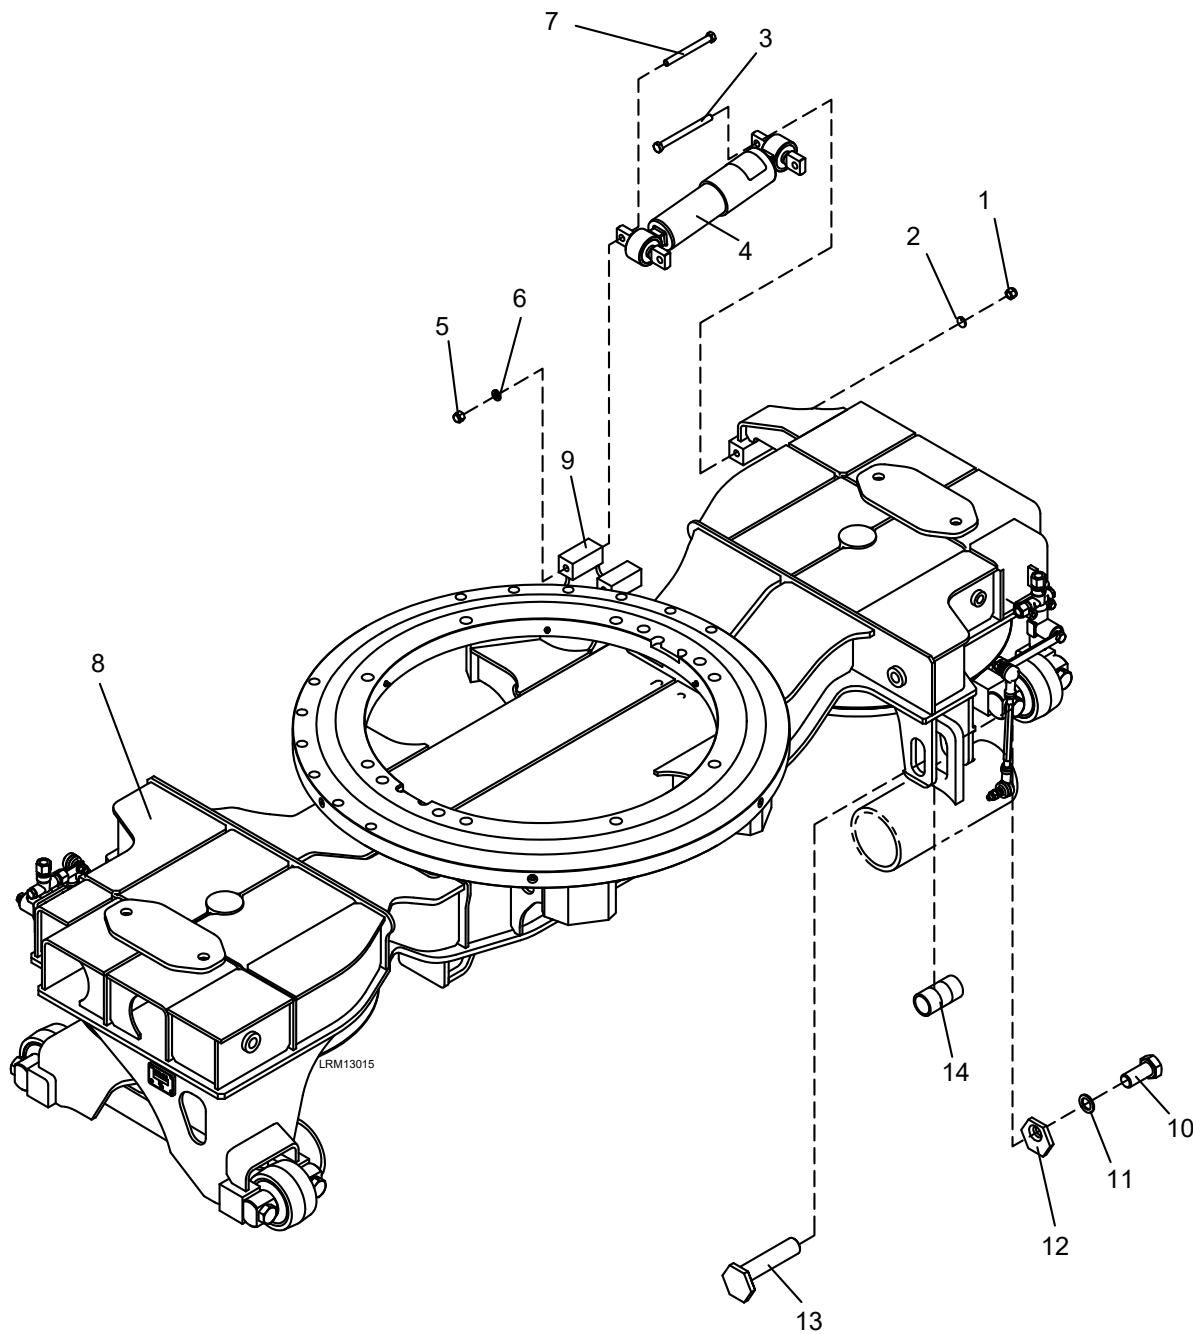

Figure 5-2: Center Truck Bolster
1. Remove the two M12 lock nuts (1), M12 lock washers (2) and M12 x 145 bolts (3) from the lateral damper (4). See Figure 5-2.
2. Remove the two M12 lock nuts (5), M12 lock washers (6) and M12 x 125 bolts (7) from the lateral damper (4).
3. Remove the lateral damper (4) from the center truck bolster (8) and the center truck frame (9).
1. Remove the M20 x 35 bolt (10), M20 Nord-Lock washer (11) and special washer (12). See Figure 5-2.
2. Remove the special pin (13).
3. Remove the three collars (14).